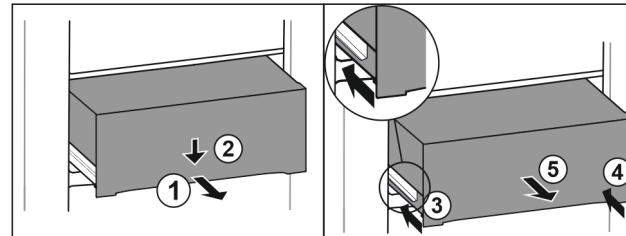

Fig. 133
- ▶ Pull out drawer half-way. Fig. 133 (1)
- ▶ Push the drawer down at the front. Fig. 133 (2)
- ▶ Push the left rail in by about 2 cm. Fig. 133 (3)
- ▶ Push the right rail in by about 2 cm. Fig. 133 (4)
- ▶ Remove drawer to the front. Fig. 133 (5)